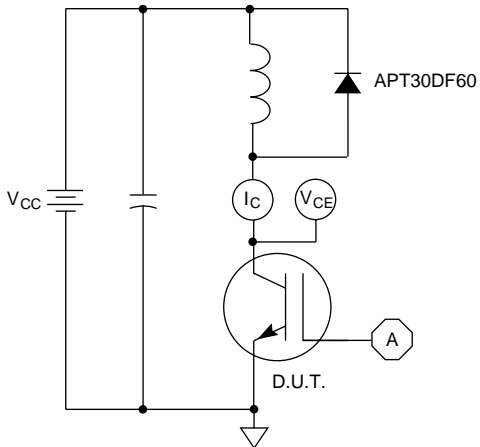

Figure 21, Inductive Switching Test Circuit
⑤  $E_{on2}$  is the clamped inductive turn-on energy that includes a commutating diode reverse recovery current in the IGBT turn-on switching loss. A Combi device is used for the clamping diode as shown in the  $E_{on2}$  test circuit. (See Figures 21, 22.)
⑥  $E_{off}$  is the clamped inductive turn-off energy measured in accordance with JEDEC standard JEDS24-1. (See Figures 21, 23.)
⑦ Continuous current limited by package lead temperature.